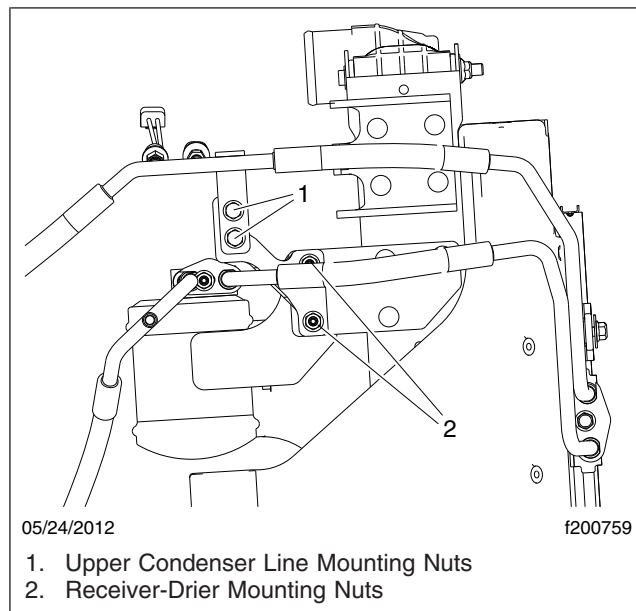

Fig. 2, Receiver-Drier Installation (typical)
- 12.1 Remove the receiver-drier and upper A/C line mounting nuts, then free the receiver-drier. See **Fig. 2**.
- 36.2 Position the receiver-drier and upper A/C line on their respective brackets and install the mounting nuts. See Fig. 2. Tighten the nuts 14 to 16 lbf-ft (19 to 22 N-m).